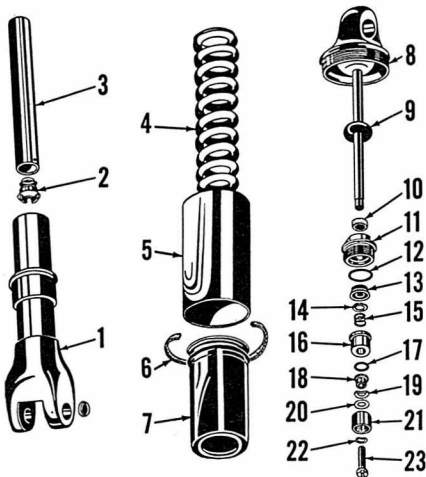

Fig. A3-7—Exploded view of rear suspension unit.
The rear suspension units can be disassembled after unscrewing nut (11—Fig. A3-7). The damper cylinders (3) should contain 71cc of SAE 40 motor oil.